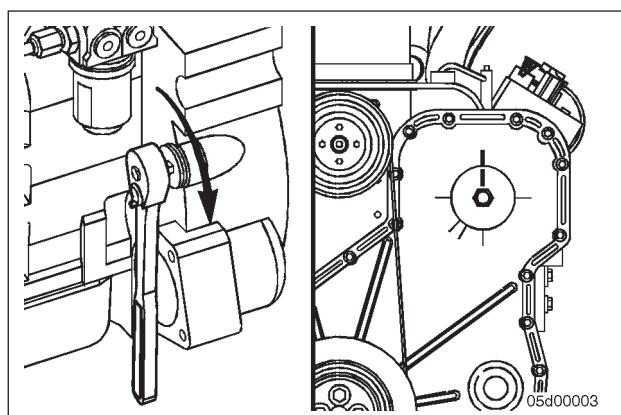

FIG. 2
2. Using the barring tool, Part No. 5299073, rotate the crankshaft to align the mark on the fuel pump gear with the top dead center mark on the gear cover (Fig. 2).